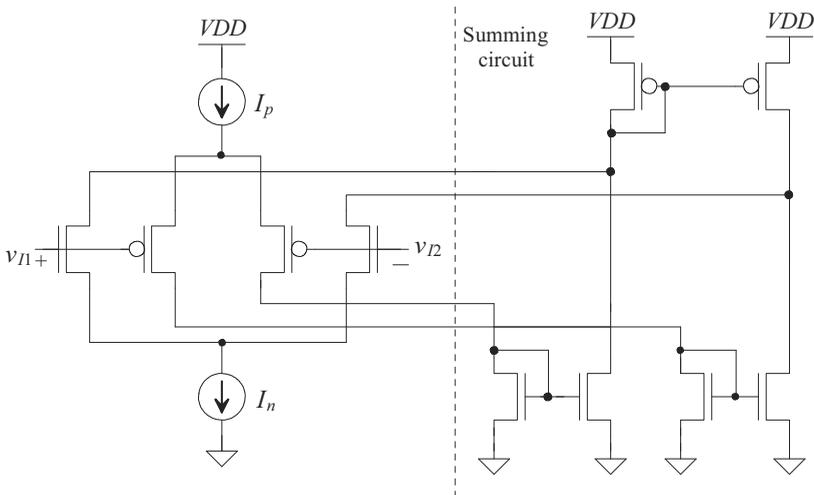

Figure 22.40 Summing circuit for Problem 22.14.
- 22.14 The circuit seen in Fig. 22.40 is an another example of a circuit that sums the currents from NMOS and PMOS diff-amps (so the input common-mode range can extend from beyond the power supply rails). Describe and simulate the operation of this circuit using the short-channel parameters in Table 9.2 and the bias circuit from Fig. 20.47.